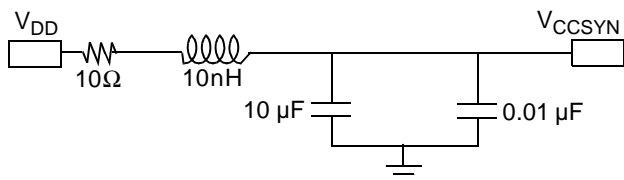

**Figure 33. Core Power Supply Decoupling**
**Figure 33** shows the recommended power decoupling circuit for the core power supply. The voltage regulator and the decoupling capacitors should supply the required device current without any drop in voltage on the device pins. The voltage on the package pins should not drop below the minimum specified voltage level even for a very short spikes. This can be achieved by using the following guidelines:
- Decouple the supply using low-ESR capacitors mounted as close as possible to the socket. **Figure 33** shows three capacitors in parallel to reduce the resistance. Three capacitors is a recommended minimum number. If possible, mount at least one of the capacitors directly below the MSC8113 device.